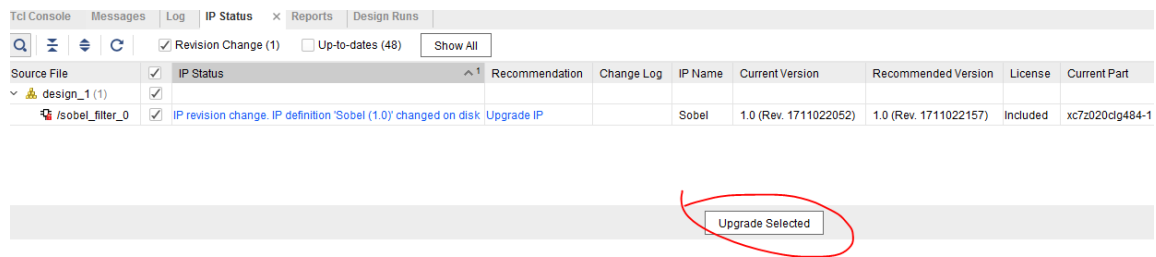

FIGURE 21 –
3. Cliquez sur *Upgrade Selected* (figure 21).